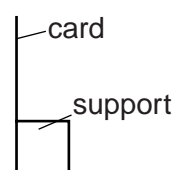

Fig. 4.3
- (iv) Screen. A white sheet of stiff card approximately 150 mm × 150 mm, fixed to a wooden support, is suitable. See Fig. 4.3.